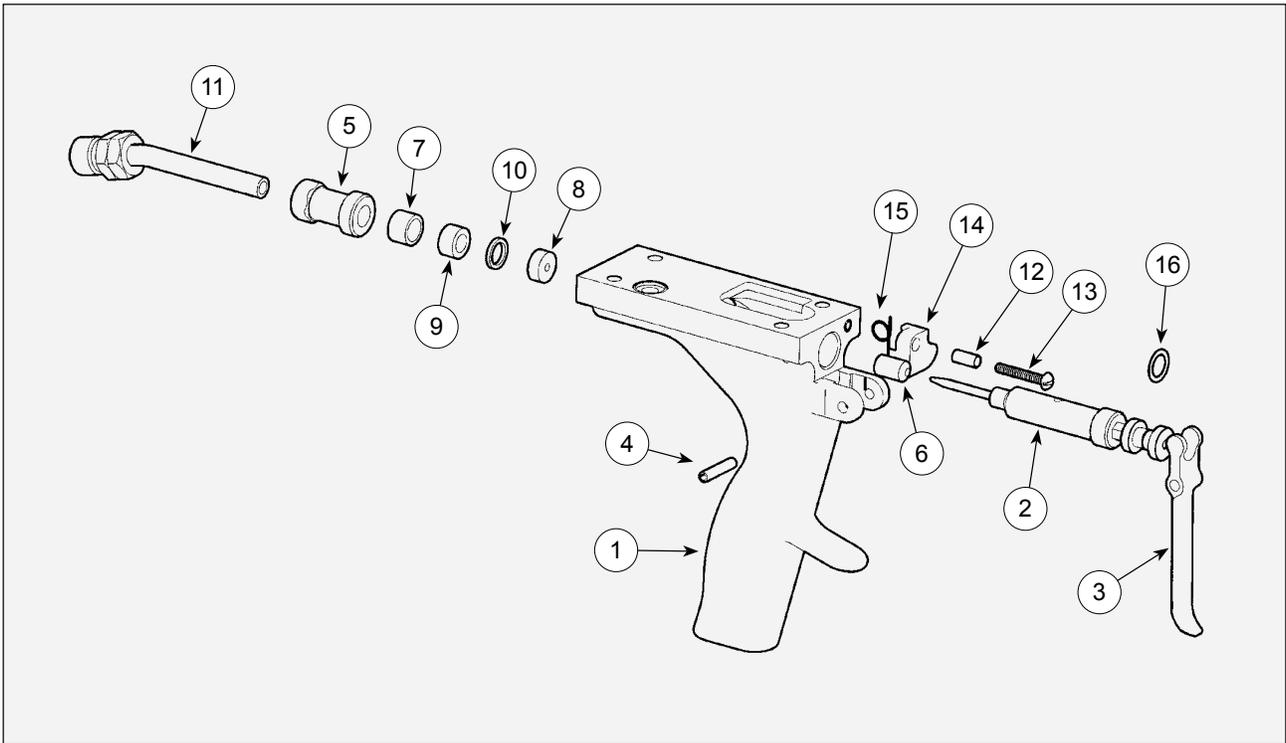

Figure 19: Handle Assembly Diagram
HANDLE ASSEMBLY (Figure 19)
5. Reverse the handle assembly so that the side marked "X" is up (Reference Figure 19). Insert trigger, making sure that the curved lower tip of the trigger is pointed away from the handle and the thrust washer is to the front of trigger.